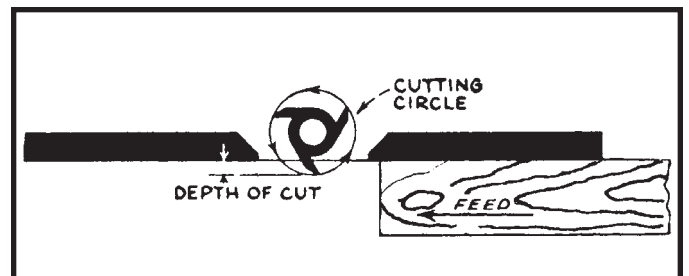

Fig. 57
1. For average work, where a portion of the original edge of the work is not touched by the cutter, both the front and rear fences are in a straight line, as shown in Fig. 57.